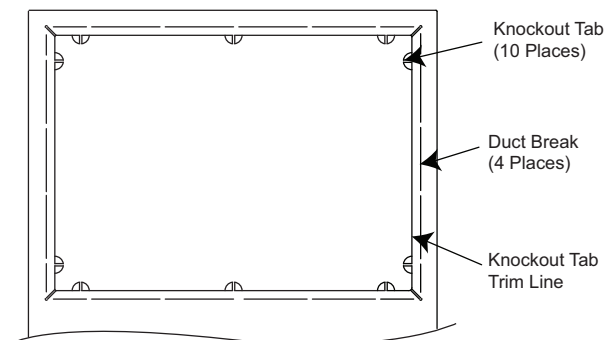
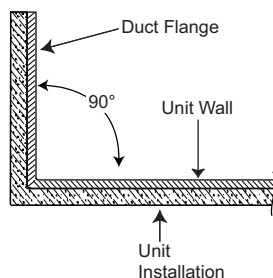

Fig. 36 — 42SMA Unit Supply Air Knockout Tab Location
Fig. 37 — 42S Unit Supply Air Installation (All Units)
3. Use a sharp retractable knife to trim insulation using center knockout slot/trim line as pattern (see Fig. 36).
4. Use a sharp standard needle nose pliers and grab knockout tab (see Fig. 36).
9. Use duct pliers (hand seamers) to fold duct flange out of the unit 90 degrees for each side of the supply air opening along duct break (see Fig. 36). The 90-degree flanges can now be used as drywall stops to prevent coverage of discharge opening (see Fig. 37).